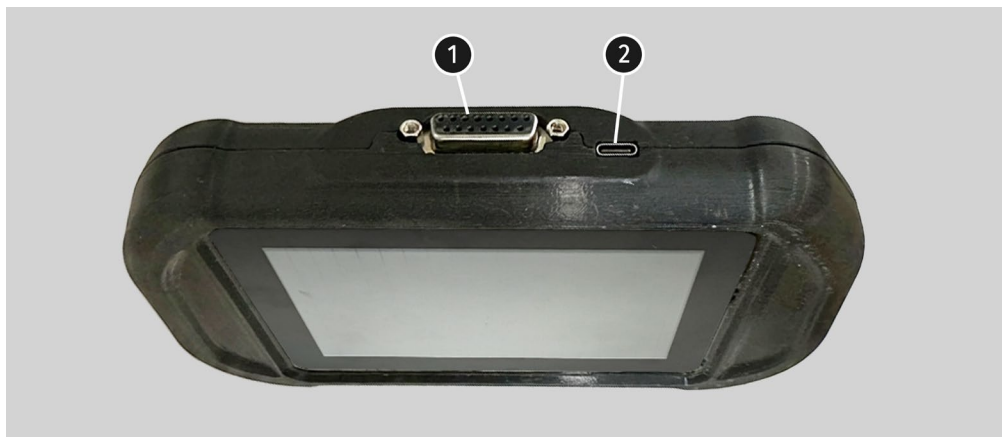

Figure 2. Tester connectors
The upper part of the tester has a connector for the diagnostic cable (see item 1 in Fig. 2) and a USB Type-C connector used to power the tester (see item 2 in Fig. 2).